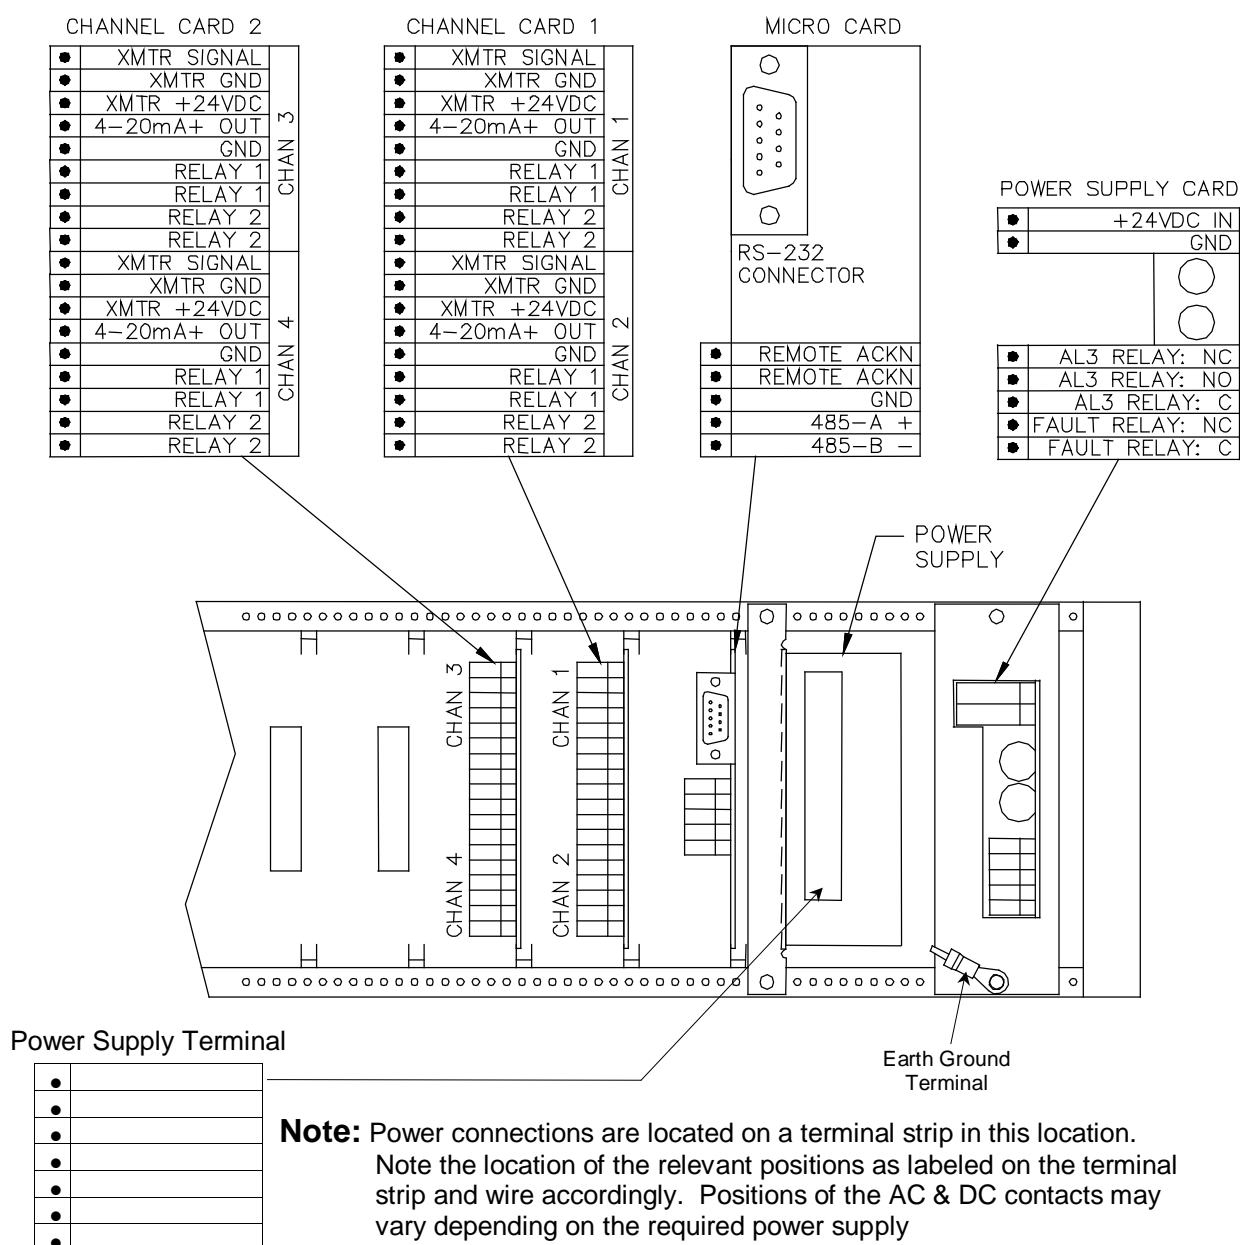

Figure 5: Power Board and Module
Power Card	Internal power supply See figures 5 for detail.
- Location of connection terminal blocks, see Figure 5
CAUTION: It is mandatory that the instrument must be grounded to earth ground. This normally occurs through the ground (green) wire of the AC power system. A terminal is also reserved for this purpose at the back of the power card, see Figure 5. The ground connection is required in order to ensure correct operation of the following
- Location of terminal block, see Figure 5
- Protection: Two fuses located at the back of the power card. See figure 5
The system alarm relay contacts AL3 are on the power supply board, as shown in Figure 5.
By programming, this common relay can also be used for the remote transmission of the audio warning signal. This relay is then associated with all the control alarms. (See Figure 5)
Common relay contact outputs are on the back of the power card: Figure 5.